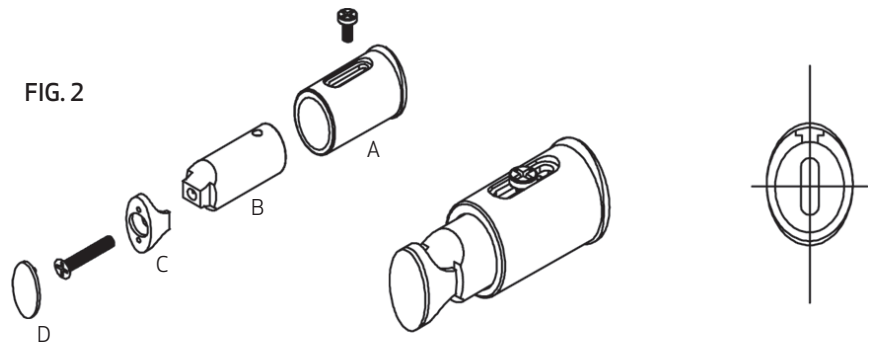

FIG. 3
5. Drill the necessary holes in the wall and install part A of the wall brackets using a 60mm x 6mm screw in each bracket (see FIG. 3).